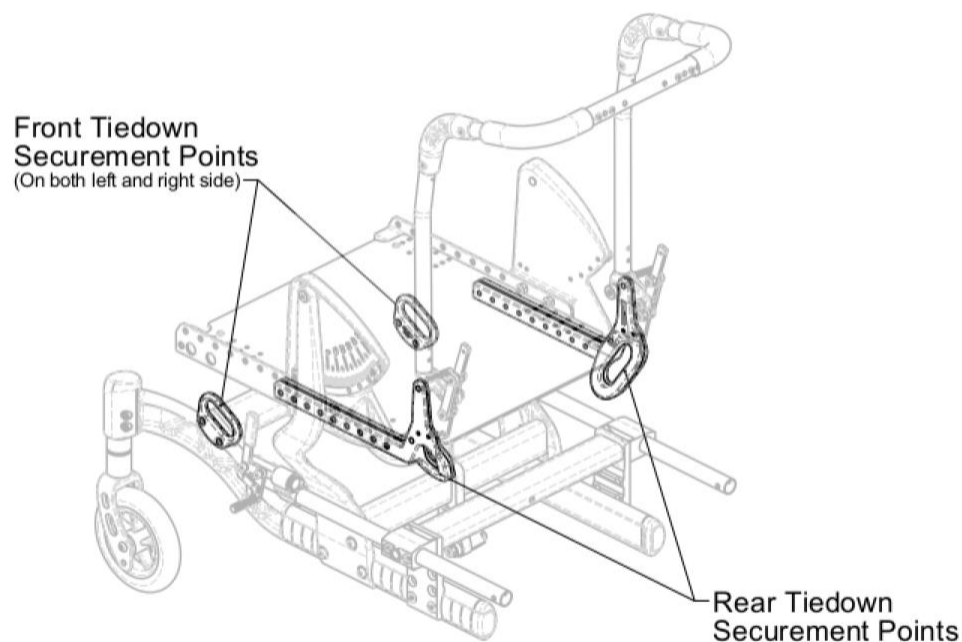

Figure 14.53: Fuze T50 Transit Tiedown 4 point securement location.
4. The Fuze T50 Transit Tiedown System is designed for a four-point (two in the front, two rear) strap-type tiedown system (Figure 14.53). Attach the WTORS in accordance with the manufacturer's instructions and RESNA WC-4:2012, Section 18 or ISO 10542-1:2012- Part 1.